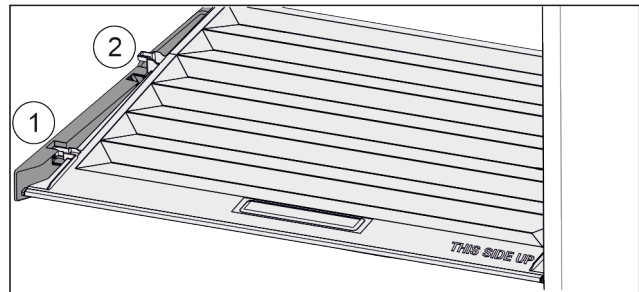

Fig. 43
- ▶ Pull the lid up at the front in the retaining parts to the opening Fig. 43 (1).
- ▶ Lift from the back and pull it up and out Fig. 43 (2).